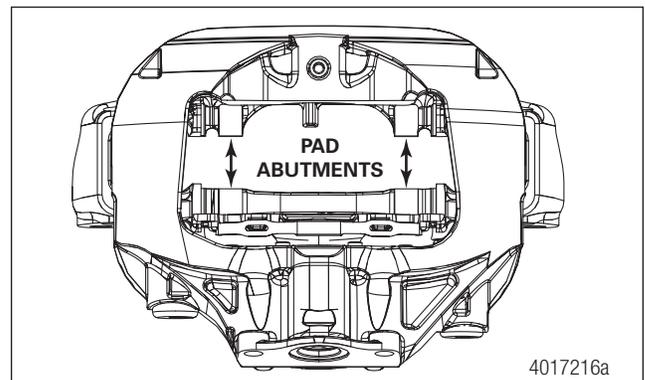

Fig. 6.10 Pad Abutments
STEP 8 - Inspect the carrier for signs of damage or wear. Pay particular attention to the pad abutments. Check for grooves on the pad abutments in excess of 0.02 inch (0.5 mm). Look for any carrier wear or damage that would cause the pad backing plate to catch and/or become cocked. Figure 6.10.